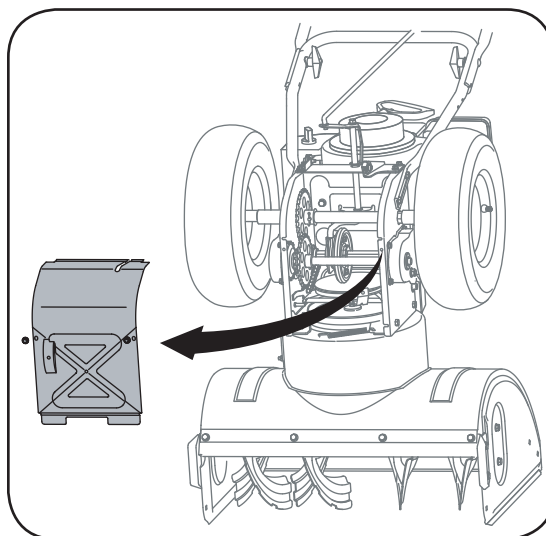

Figure 22
1. With the snow thrower tipped forward (be certain to drain gasoline or place plastic film under the gas cap if the snow thrower has already been operated), remove the frame cover underneath the snow thrower by removing the self-tapping screws. Refer to Figure 22 on page 17.
2. Drain the gasoline from the snow thrower, or place a piece of plastic under the gas cap. Carefully tip the snow thrower up and forward, so that it rests on the housing. Remove the self-tapping screws from the frame cover underneath the snow thrower and move the frame cover away. See Figure 22.